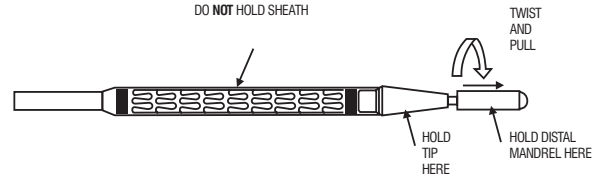

Figure 4: Distal Mandrel Removal
- Tightly pinch the guide wire exit notch. Vigorously flush until fluid is observed exiting at both the distal end of the sheath and at the mandrel. Then gently remove the distal mandrel by twisting and pulling as in Figure 4. **DO NOT HOLD THE SHEATH during mandrel removal.** Continue flushing after mandrel removal. If the distal mandrel does not remove easily or flush solution is not observed at the stent sheath junction, do not use the device.